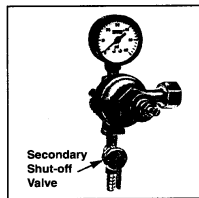

Fig. 9
- Before doing that, make sure the secondary shut-off valve is closed, as shown in figure 9. To open the main CO2 cylinder valve, slowly turn the main valve counter-clockwise until fully open.